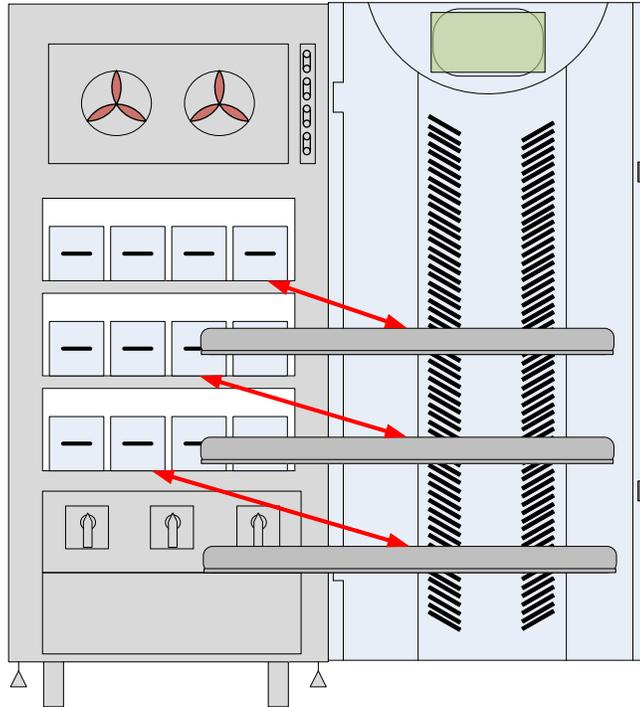

Fig. 5-11
5. Once all trays on any shelf are in place the tray keepers may be re-installed (Fig. 5-11).